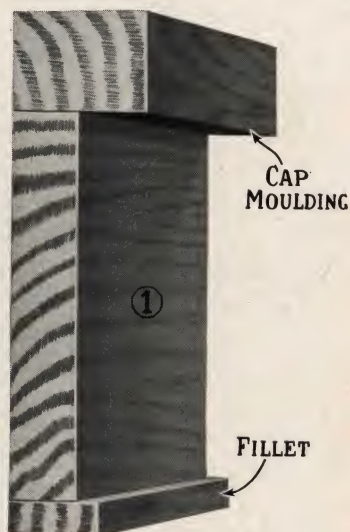

Figure No. 27A
For this popular type of window frame, the plain shade brackets or Kirsch Combination Shade and Rod Brackets should be placed just below the fillet on the side casings (2) so that the shade will not come in contact with the projection of the fillet (see Figure No. 27A), which would interfere with the easy operation of the shade.